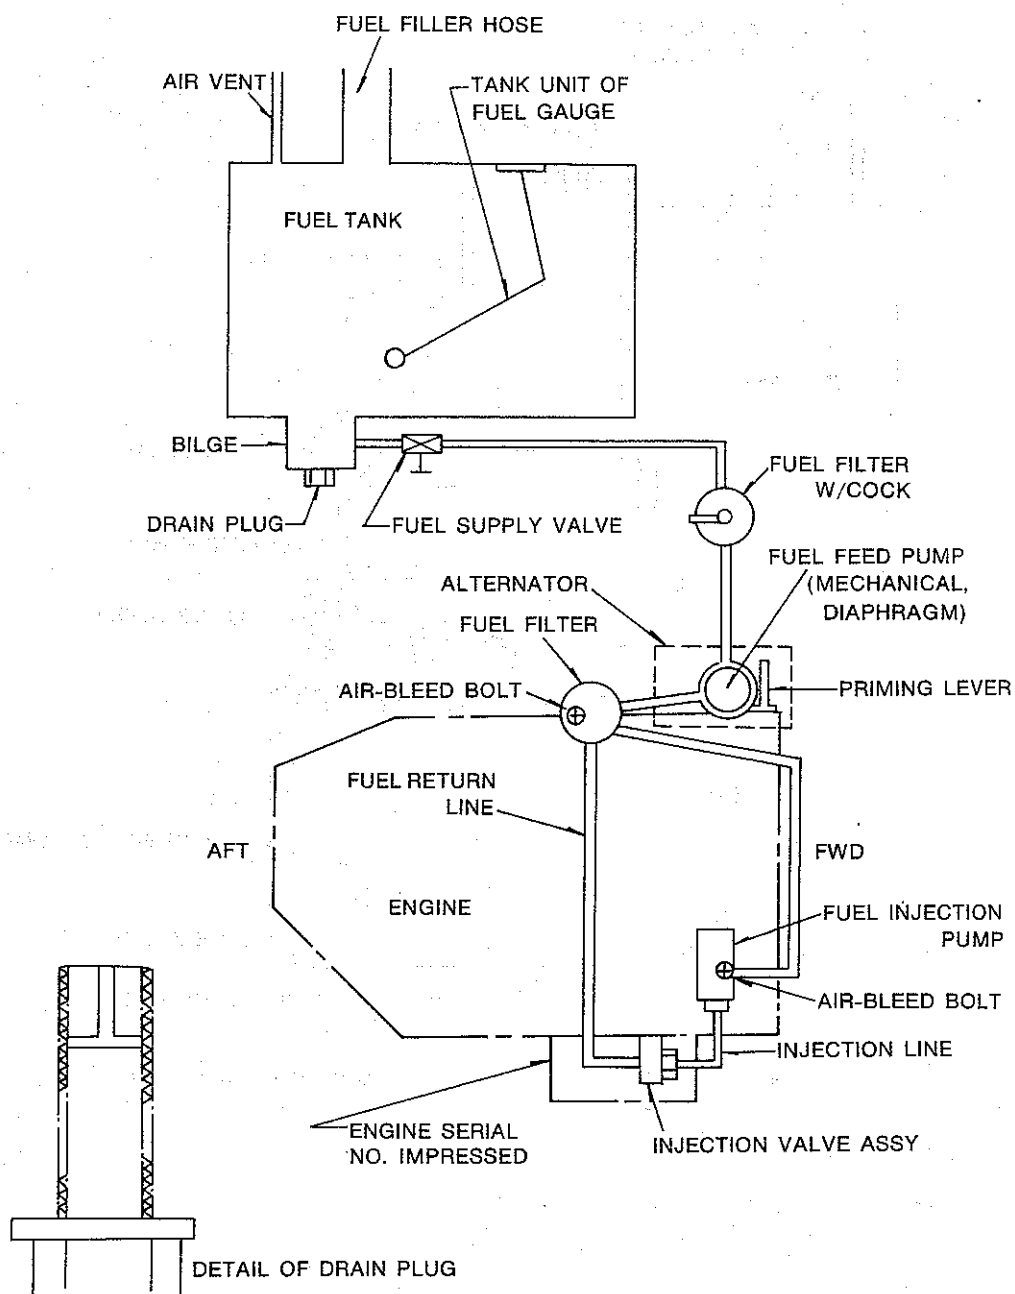

Fig. 26
- (3) Open the fuel supply valve under the fuel tank. (On U.S. Model the fuel supply valve is located on the top of the tank).
- (4) Turn on the valve of the fuel filter (see fig. 26, 27).